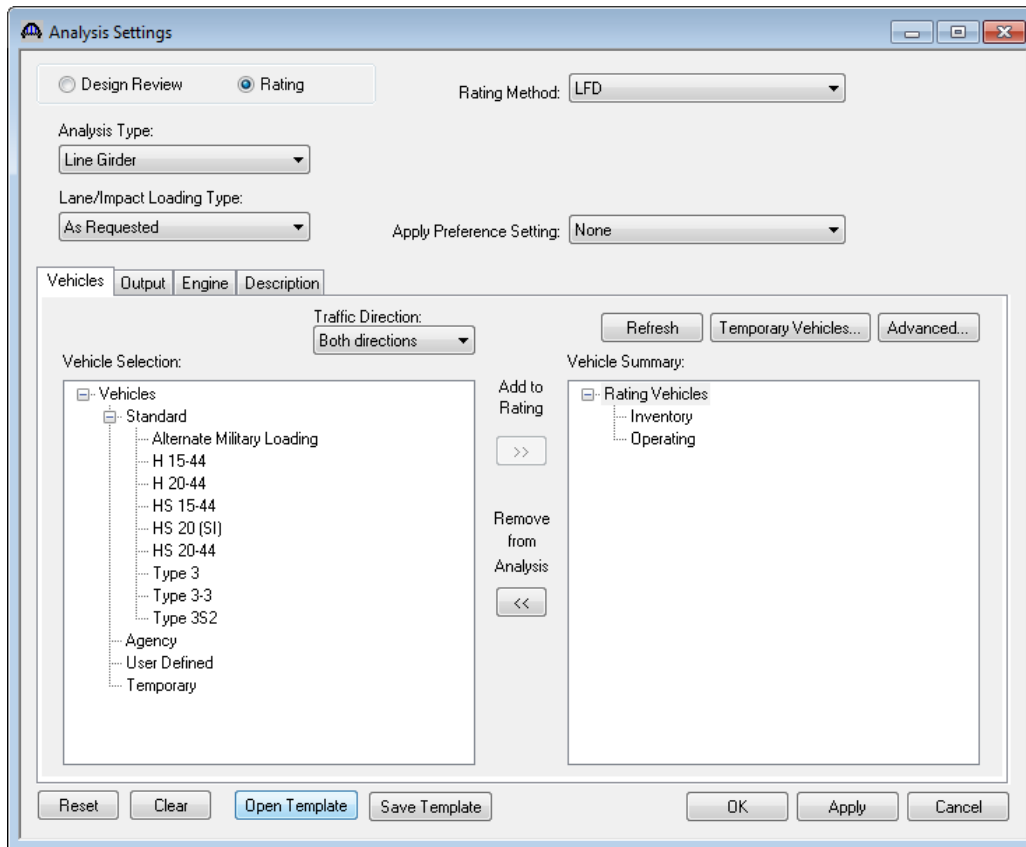

Fig 4. Analysis Settings Window
Select member alternative “Plate Girder (E) (C)”. Go to toolbar and click on View Analysis Setting button (Fig 3) to open Analysis Settings window (Fig 4).